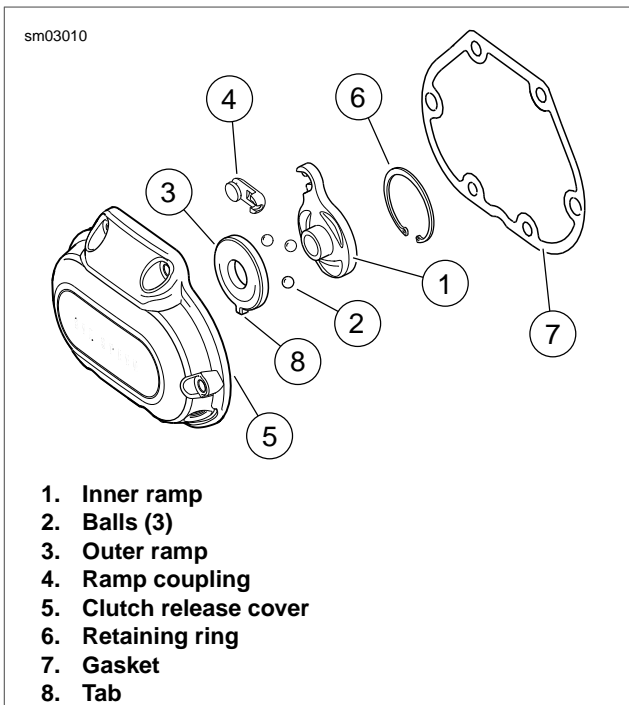

Figure 7-6. Release Mechanism Assembly
1. See Figure 7-6. Wash the ball and ramp mechanism components in cleaning solvent.
2. Inspect the three balls (2) and ball socket surfaces on ramps (1, 3) for wear, pitting, surface breakdown and other damage. Replace damaged parts.
3. Check fit of the ramp coupling (4) on inner ramp (1). Replace both parts if there is excessive wear.
4. Inspect the retaining ring (6) for damage or distortion.
6. Check the bore in the cover (5) where the ramps (1, 3) are retained. There should be no wear.
2. See Figure 7-6. Place outer ramp (3) with ball socket side up in clutch release cover. Be sure tab (8) is in clutch release cover slot.
4. Connect cable end to ramp coupling (4). Install coupling on inner ramp (1) and place inner ramp and coupling in position in clutch release cover (5).